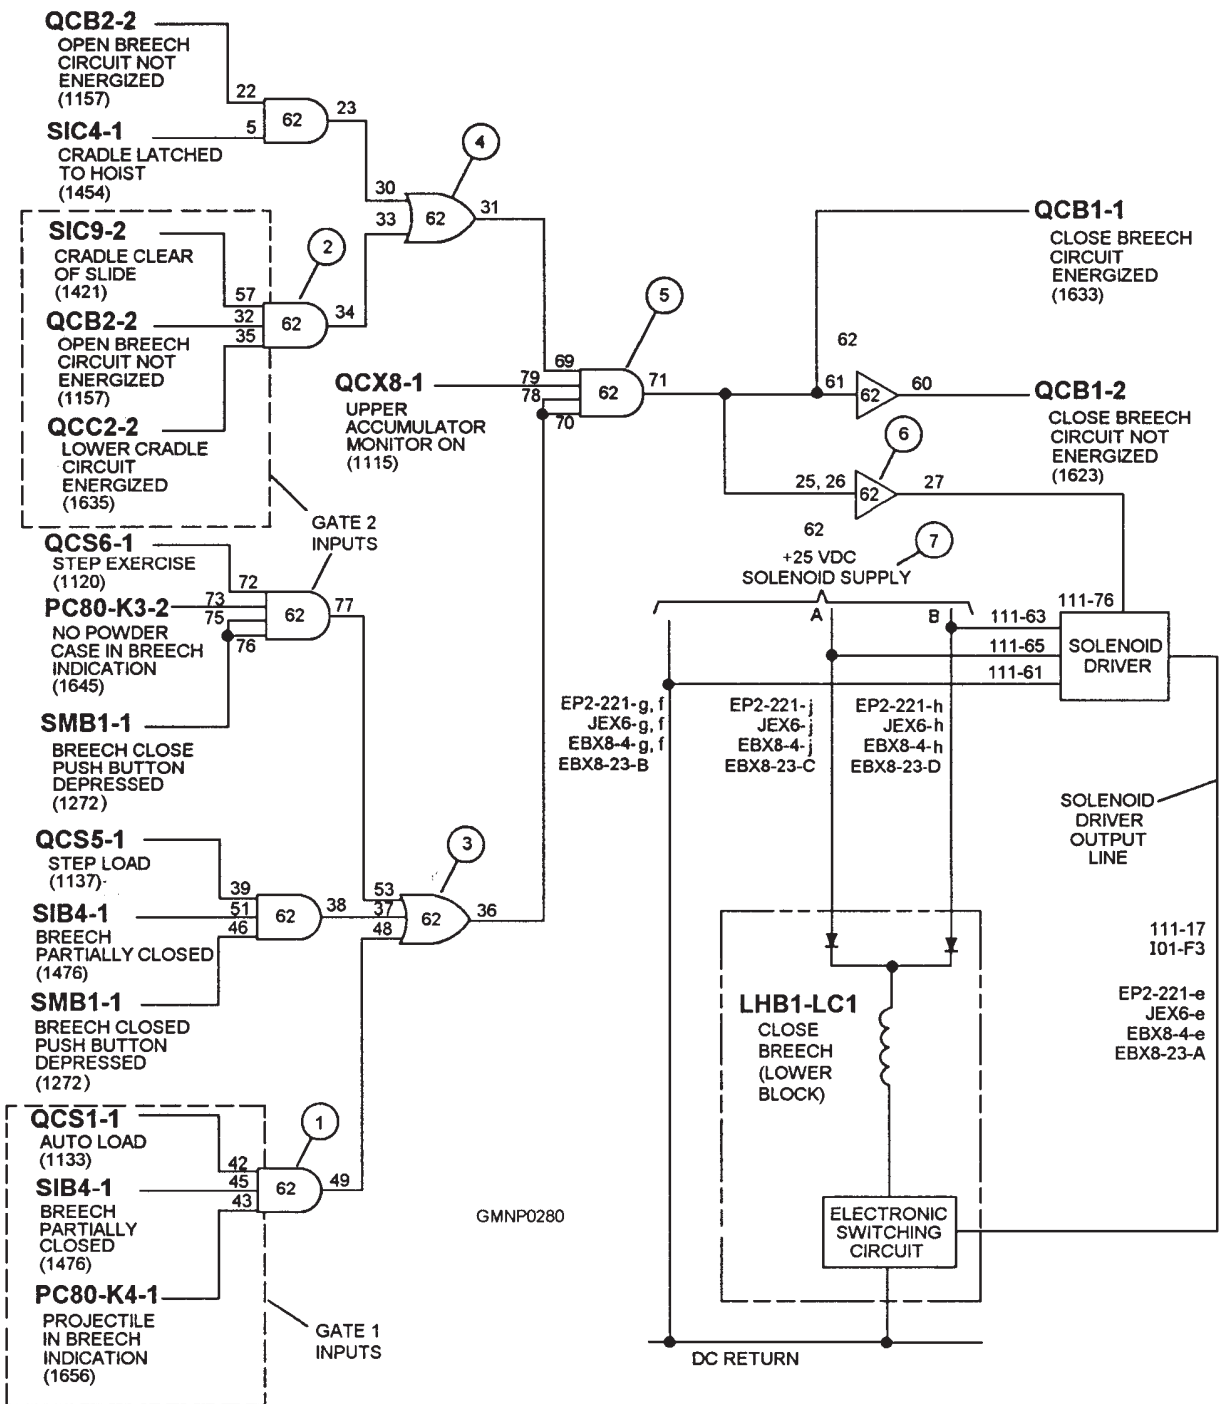
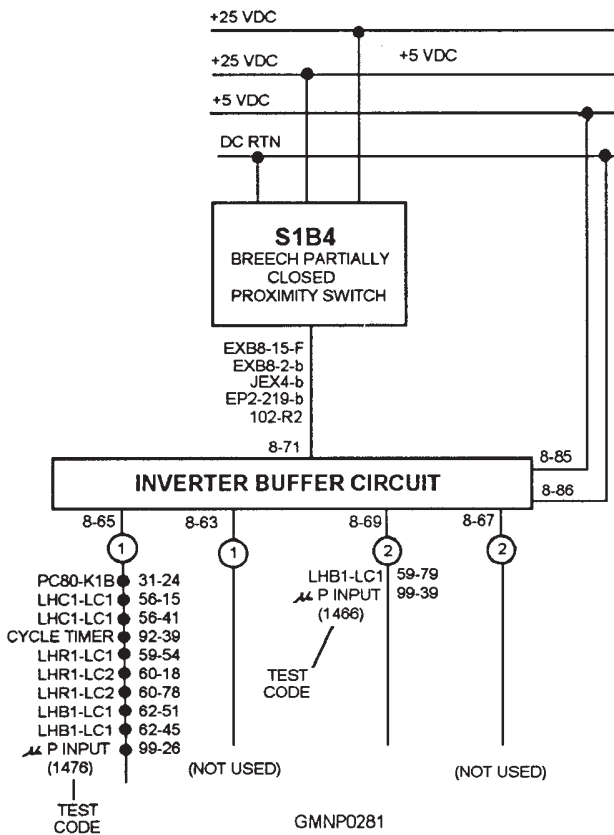
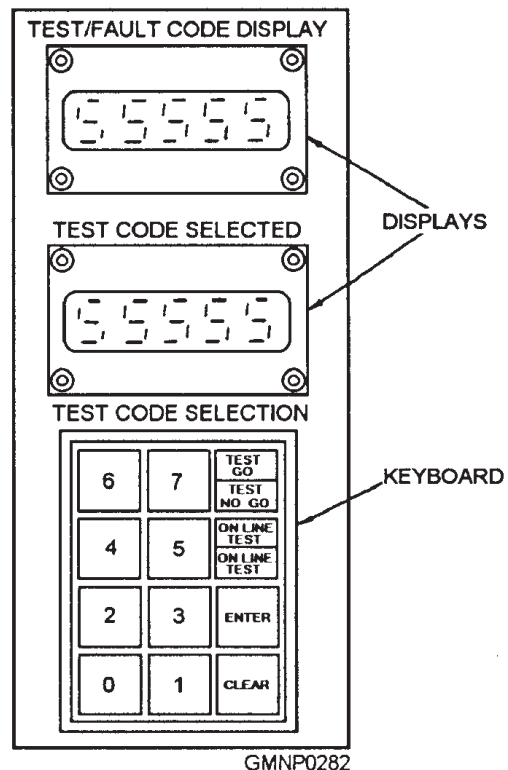
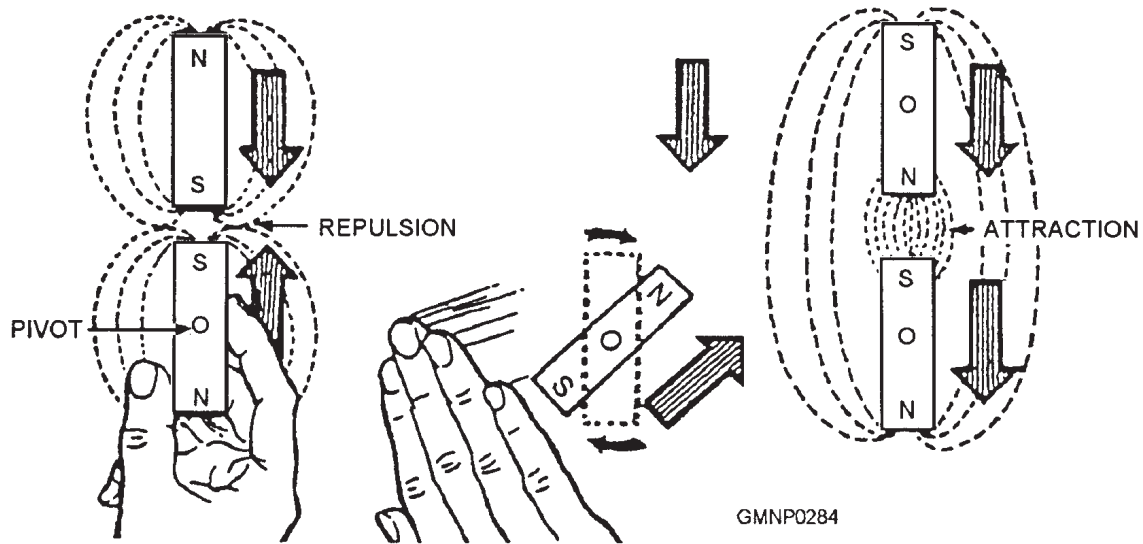

Figure 5-17.—Typical logic control circuit.
Figure 5-18.—Inverter buffer circuit for SIB4.
Figure 5-19.—Test/Fault code keyboard and displays.
Figure 5-21.—Repulsion and attraction.
Figure 5-17 shows a typical logic circuit that uses inverted and buffered switch outputs to trigger a solenoid driver. The solenoid driver, in turn, controls a solenoid that initiates a gun-loading cycle, in this case closing the breech of a Mk 45 Mod 1 gun.
This circuit consists of AND gates, OR gates, and an inverter. The numbers within the gates identify the printed circuit board in the EP2 panel on which the circuit is located. The numbers on the input and output lines of the gates identify the terminal pin that connects to that point. The circled numbers in figure 5-17 are added for ease in identifying items as we illustrate the operation of the circuit.
what the input means. The input SIB4-1 (BREECH PARTIALLY CLOSED) to gate 1 comes from the number 1 output leg of the inverter buffer associated with SIB4 (fig. 5-18). When the breech is partially closed, the switch is activated and the high switch output through the inverter buffer produces a low logic input at input pin 45 of gate 1. Remember, gate 1 is an AND gate and requires all inputs to be LOW to produce a LOW output.
The inputs to gates 1 and 2 in figure 5-17 initiate the operation of breech closing solenoid LHB1-LC1 in the normal mode of operation, AUTO LOAD. The six inputs indicate that the gun-loading system has delivered a complete round into the breech of the gun, the LOWER CRADLE circuit is energized, and the cradle has moved clear of the slide. With these conditions met, gates 1 and 2 pass a LOW logic signal to gates 3 and 4 respectively. Since gates 3 and 4 are OR gates, they require only one LOW input to produce a LOW output. The two LOWs from gates 3 and 4 are applied, with another LOW from summary circuit QCX8, to gate 5. When all inputs to gate 5 are LOW it passes a LOW to gate 6, which is an inverter. With a LOW input, the inverter passes a HIGH output to the solenoid driver. This solenoid driver, unlike the type used in the Mk 42 gun system, does not control the current flow to the solenoid. The output of the solenoid
The Mk 45 Mod 1 gun system is equipped with a microprocessor that monitors the gun's sequence of operation through equipment position switch inputs. Notice the last output destination on the 1 and 2 legs of the inverter buffer circuit shown in figure 5-18. μ P INPUT indicates that switch output is supplied to the microprocessor. On the EP-2 panel there is a Test/Fault Code Keyboard and Display (fig. 5-19) that is used to interface with the microprocessor. To test the output of a switch or summary circuit, the operator need only to type in the test number for that circuit or switch. The result of the test is displayed as a 0 or a 1 in the Test/Fault Code Display above the keyboard. A zero (0) indicates a LOW output and a one (1) indicates a HIGH output. In this case, the test number for SIB4 is 1476 for leg 1 and 1466 for leg 2 (fig. 5-19). The test code number is displayed in brackets along with the circuit or switch input/output identification (note the same number [1476] in the SIB4-1 input to gate 1 in fig. 5-17).
Logic circuit failures are isolated much the same as they are in the older types of control circuits. Refer to figure 5-17 again as we walk through a typical troubleshooting routine. You have verified equipment position and determined that the equipment stopped at the CLOSE BREECH step in the loading sequence. The first problem is to isolate the fault to one side of the circuit. This is done by entering the test code for QCB1-1, [1633]. A LOW would indicate the problem is in the right side of the circuit, in gate 6—the solenoid driver or the solenoid. Let us assume we read a HIGH here, the problem is in the left side of the circuit. Since there are no test codes for gates 3, 4, and 5, we skip over to the switch inputs for gates 1 and 2. If all the inputs to gates 1 and 2 are LOW, the problem is on board 62. A HIGH at any of these test points would lead you back through the inverter buffer circuit for that input. In this case we will assume a HIGH input is detected at SIB4-1. Refer to figure 5-21 as we examine the inverter buffer for SIB4. Since we have read a HIGH at leg 1, test code [1476], we can assume the inverter buffer is functioning if we read a LOW on leg 2, test code [1466]. This leads us back to the proximity switch. After verifying that the switch is in proximity, we test the switch by checking switch input at point 8-71. This is accomplished using a circuit card extender. The circuit card extender allows you to take input and output readings on a particular circuit card while the system is energized. The circuit card extender provides an extended circuit card jack with test points for each pin connection. A LOW reading at pin 8-71 would indicate a bad proximity switch.
A bar magnet illustrates the magnetic field and pole relationship of the synchro. The lines of force flow from the south pole to the north pole inside the magnet, as shown in figure 5-21.
Two bar magnets, shown in figure 5-21, illustrate the actions of like and unlike poles in bar magnets.